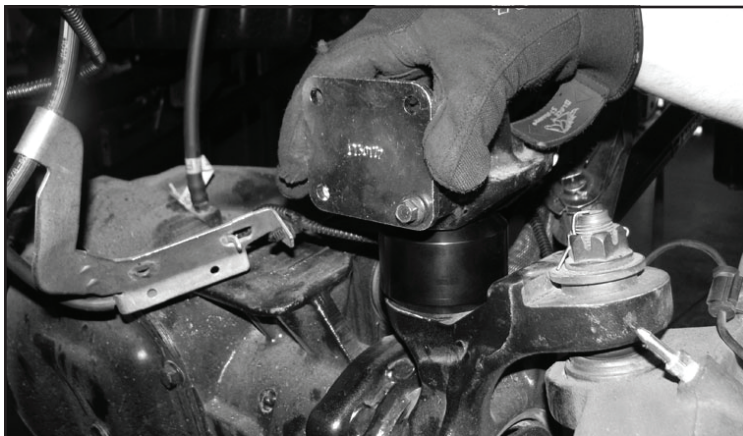

FIGURE 7 - STEP 7
7. Locate FT30172 (Brake line bracket), attach the bracket to the factory spring perch using the supplied 8mm hardware. Using the 5/16 hardware attach the factory brake line bracket to the new Fabtech bracket. **SEE FIGURE 7**